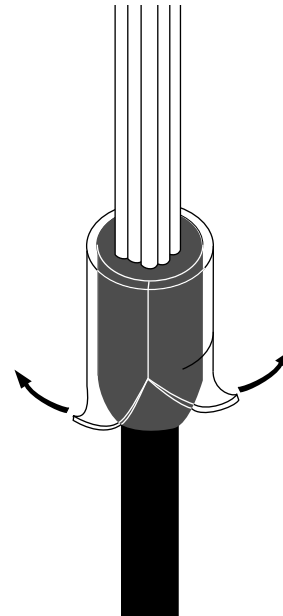

Figure 16
6.12 Grab the slices at the bottom of the vinyl tube and pull out and up to separate the tube from the plug. (Figure 16).